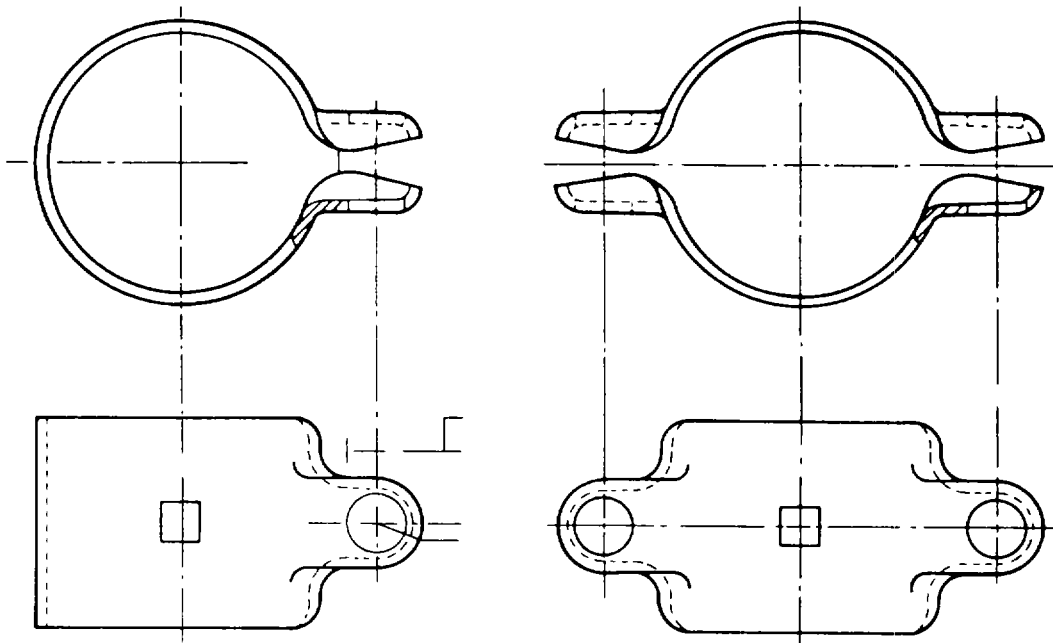

Figure 2-44. Tube Clamps
(3) *Tube clamp.* A tube clamp, as shown in figure 2-44, is a one- or two-piece clamp used with tube-to-tube connections or tube-to-duct connections.